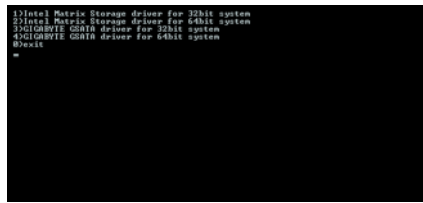

Figure 2
Step 2: When the controller menu (Figure 2) appears, remove the startup disk and insert the blank formatted disk. Select the controller driver by pressing the corresponding letter from the menu. For example, from the menu in Figure 2:
Use an alternative system and insert the motherboard driver disk. From your optical drive folder, double click the **Menu.exe** file in the **BootDrv** folder (Figure 3). A command prompt window will open similar to that in Figure 2.